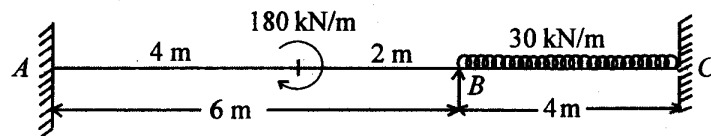

Fig. 2
3. A continuous beam ABC fixed at the ends is loaded as shown in Fig. 2. Find the reactions and support moments. Also, draw shear force and bending moment diagrams. Use the moment distribution method. 20